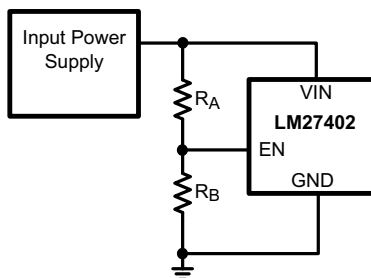
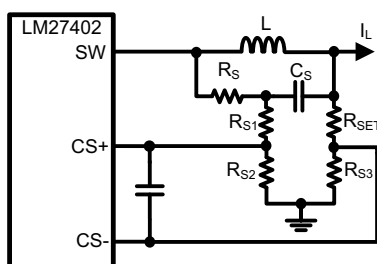

Figure 28. Enable Sequencing
Figure 34. Common Mode Voltage Resistor Divider Network
If enable (EN) is not controlled directly, the LM27402 can be pre-programmed to turn on at an input voltage higher than the UVLO voltage. This is done with an external resistor divider from VIN to EN and EN to GND as shown in Figure 28.
The internal current source I_{CS-} is powered from the input voltage rail, V_{IN} . The minimum voltage required to drive that current source is 1 V from V_{IN} to V_{OUT} . If a low-dropout condition occurs where $V_{IN} - V_{OUT} < 1$ V, the LM27402 may prematurely initiate hiccup mode. There are multiple options to avoid this situation. The first option is to enable the LM27402 after the input voltage has risen 1 V above the nominal output voltage as seen in Figure 28. The second option is to lower the comparator common-mode voltage shown in Figure 34 such that the I_{CS-} current source has enough headroom voltage.